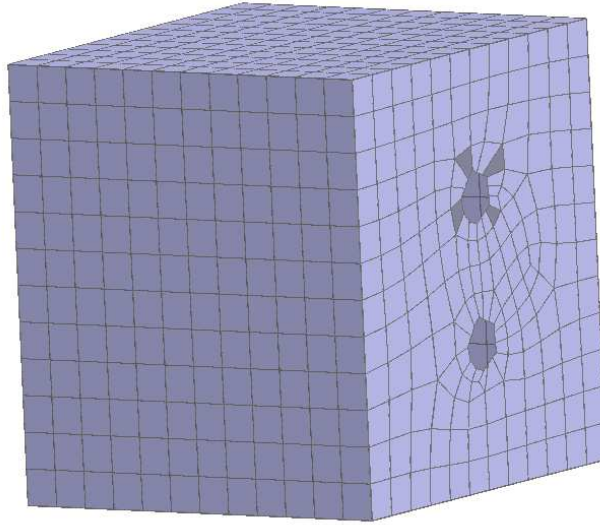

Figure 9.11: Select elements for creating a seam.
- Left-click on the elements around the edge of a hole while holding the *shift-key*. Make sure to select elements with nodes on the hole edge as shown in Figure 9.11.